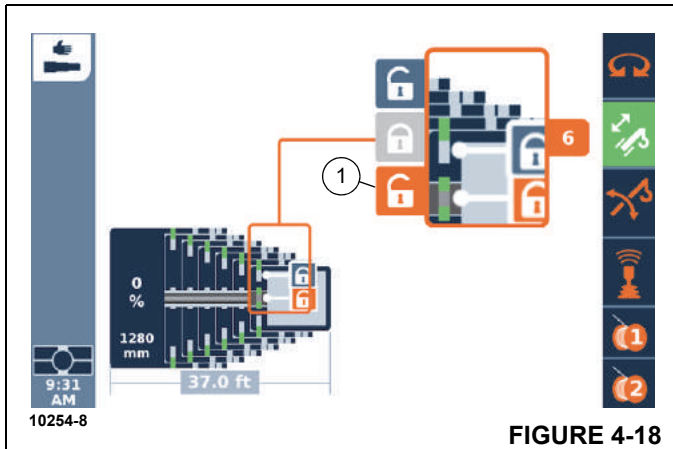

FIGURE 4-18
1. Select the symbol (1, Figure 4-18).